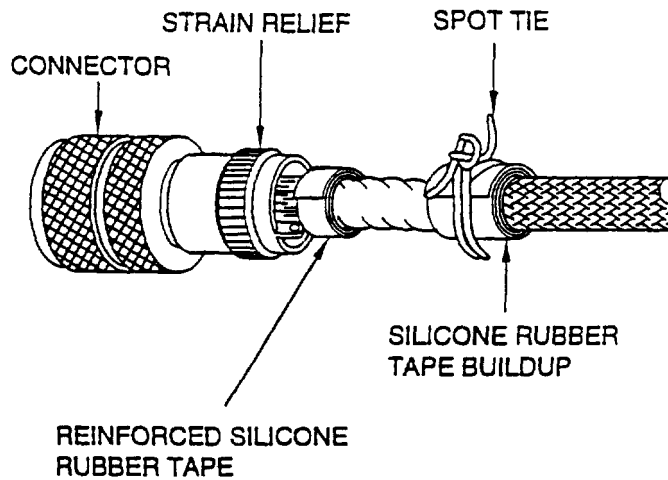

Figure 48. Saddle Clamp Removal
45. **Connector Accessory Entry Protection.** On a protected harness the rear entry of connector should be protected as shown in Figure 48. To repair wires or cable in this area, remove the accessory as follows:
b. Loosen the cable clamp screws. If necessary, remove one side of the saddle clamp but retain the loose screw in the saddle clamp (Figure 48).